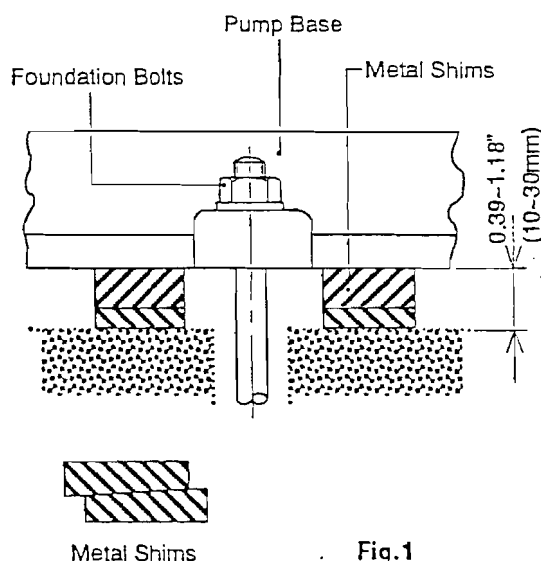

Fig.1
3. In case of a concrete foundation, adjust parallel alignment for baseplate by placing four sets of metal shims between concrete and base plate. (Fig.1)